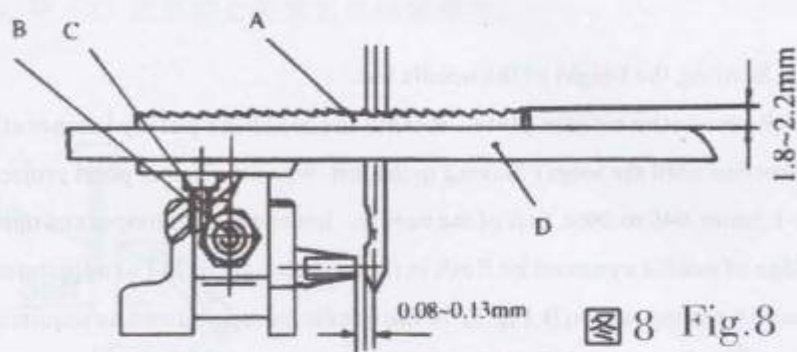

图8 Fig.8
缝纫时由于袋边接接处厚度不一致，往往会使机针刺在缝料厚薄交界处而弯曲或发生故障，而机针挡块(图5E)则可起到保护作用。两者的间隙为0.08~0.13毫米(0.003至0.005英寸)，(图8所示)。调整时将皮带轮按工作方向转动，使机针挡块靠近机针，拧松牙架上(图5, F)紧定螺钉(G)；移动机针挡块(E)至合适间隙后再拧紧螺钉(G)。
The needle will bend or break when abutting bags made of different thickness of sewing material. And the needle guard (E, Fig. 5) will protect the needle. The clearance between the needle and the needle guard is 0.08-0.13mm(.003 to .005in. )(Fig.8). For adjustment, rotating pulley in the direction of operating, so that the needle guard moves against the needle. Loosen set screw(G) on feed dog holder(Fig.5), move the needle guard accordingly. Retighten screw (G).
根据缝料质量与厚度确定送料牙(图8, A)高度。对于布袋、塑料编织袋等薄料，齿面应高出针板(D)上平面约1.8毫米(0.070英寸)，麻袋约2.2毫米(0.090英寸)，调整时先将送料牙行至最高点，卸下针板和送料牙。按需要的高度调节支承螺钉(C)后，重新装上送料牙和针板，并固紧六角螺母(B)。
The height of the feed dog(A, Fig. 8) are determined by the quality and thickness of the sewing materials. For closing thin material such as bags made of cloth and plastic, teeth should project 1.8mm(.070in.) above the throat plate(D) top surface, and for sacks about 2.2mm(.090) above the throat plate. For setting, move the feed dog to the highest position, remove throat plate and feed dog, adjust the supporting screw (C) as required, remount the feed dog and throat plate. Retighten screws (B).